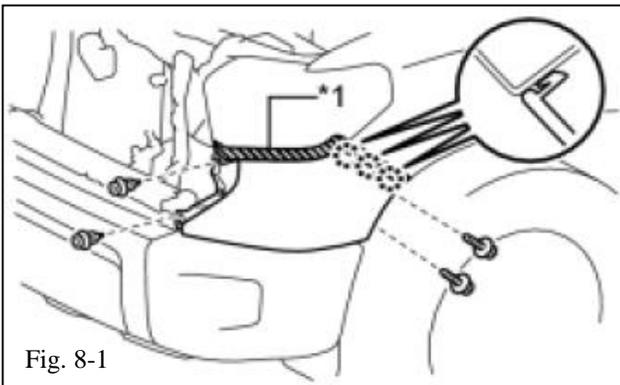

Fig. 8-1
- (a) Put protective tape around the LH front end panel (Fig. 8-1).
- (b) Remove the 2 screw and 2 clips (Fig. 8-1).
- (c) Detach the 3 claws and remove the front LH end panel (Fig. 8-1).